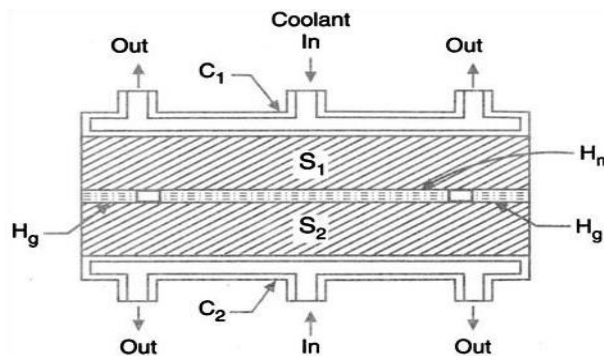

Fig. 2.5 Elements of guarded hot plate method
- The essential elements of the experimental set-up as shown in figure 2.5 are: